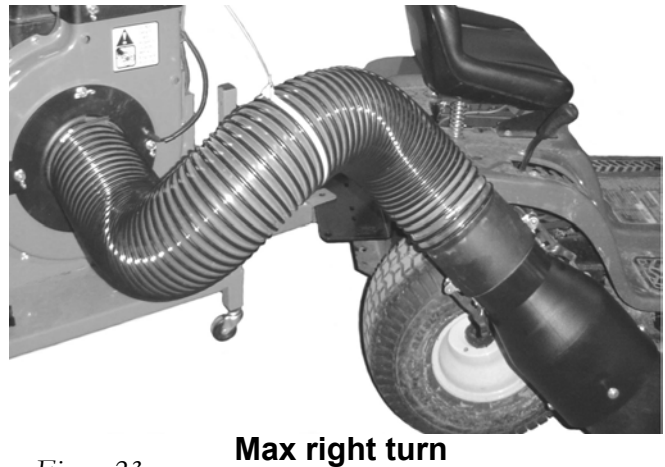

Figure 23
3. To assure that the hose has the proper length, turn the tractor all the way to the left, while watching the hose. The hose should not become too taut so as to move or damage your lawn deck adapter. If the trailer tongue is able to contact the Hitch Plate, without stressing the hose or lawn deck adapter, the hose is of sufficient length (*Figure 23*).
5. To assure that the hose will not drag on the ground, turn the tractor to the right while watching the hose. If the supplied hose support lanyard is not sufficient to prevent the hose from kinking or dragging on the ground, reduce the length of the hose by removing the hose clamp with a screw driver at the inlet of the blower and cutting the hose to length required using wire cutters to cut the spiral and then cut the hose with the razor knife. If the trailer tongue is able to contact the hitch plate, without allowing the hose to kink or drag on the ground, the hose has sufficient support (*Figure 23*).